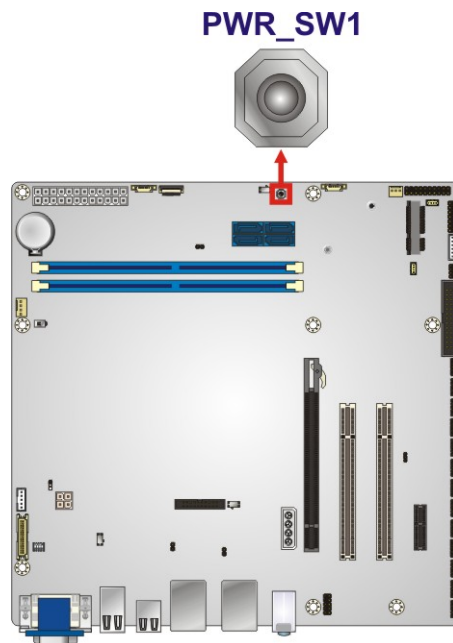

Figure 3-25: Power Button Location
- CN Location:** See **Figure 3-25**